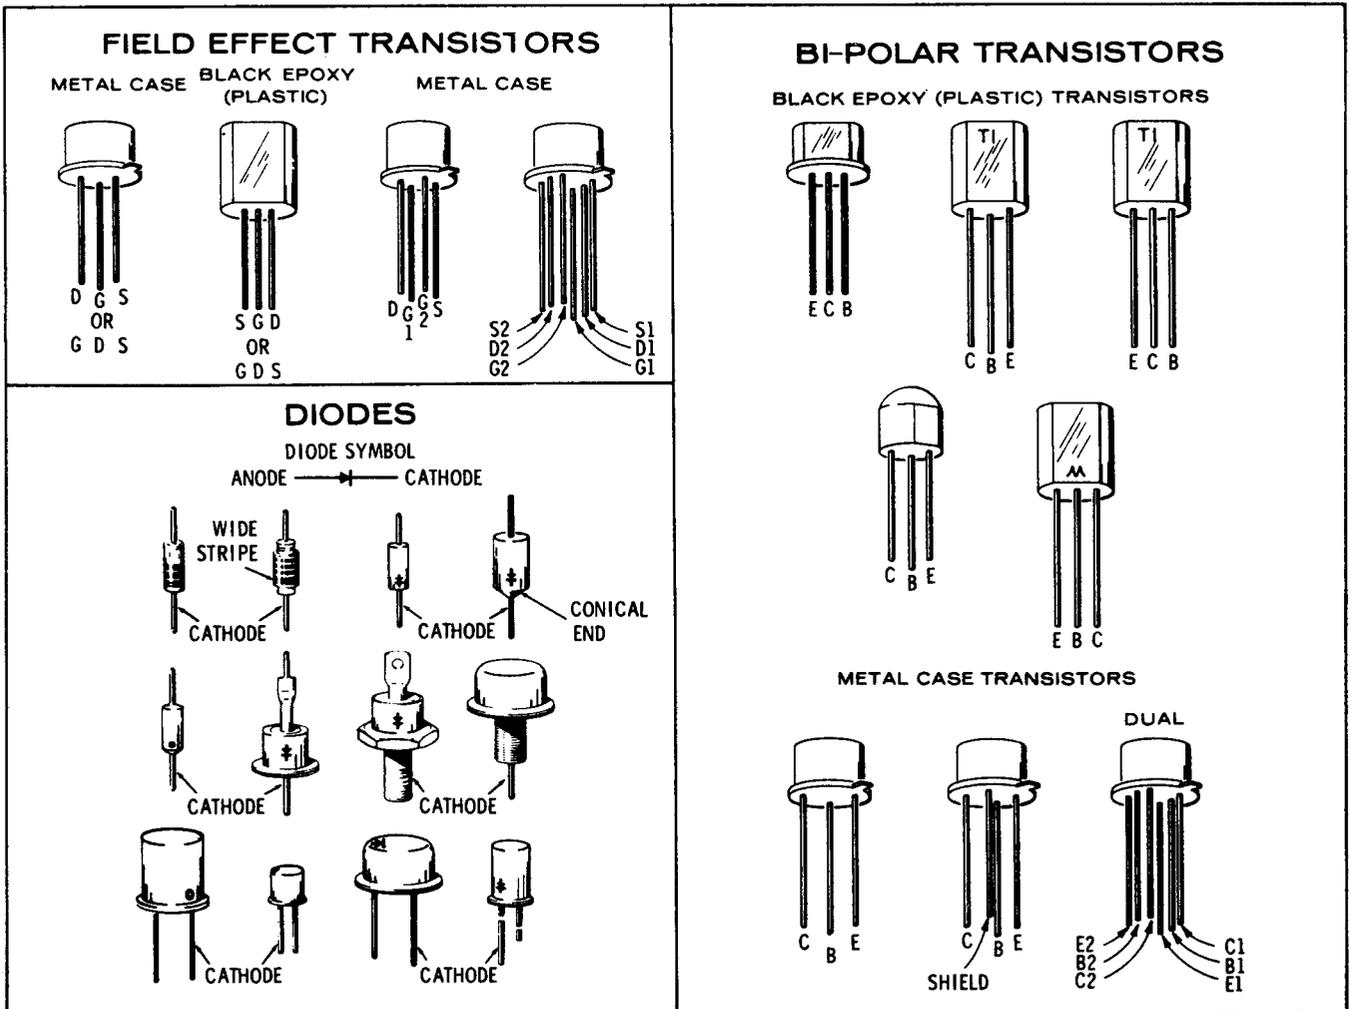

Figure 8-2. Examples of Diode and Transistor Marking Methods
**8-26. Transistor and Diode Markings.** Figure 8-2 illustrates examples of diode and transistor marking methods. In addition, the emitter lead for bipolar transistors is identified on the printed circuit boards.